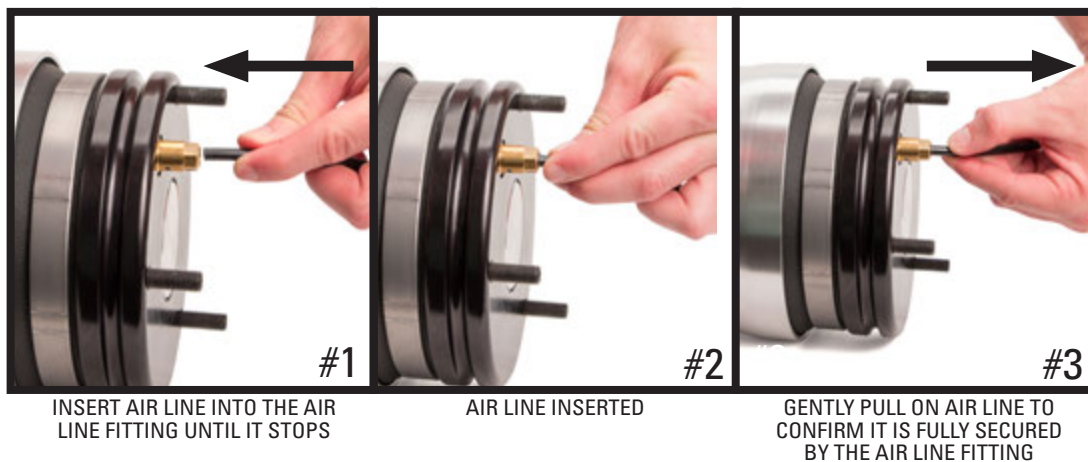

FIGURE 40
13. CONNECT THE AIR LINE. PRESS THE LINE IN UNTIL IT SEATS IN THE FITTING FIRMLY. USE THE FIGURE BELOW AS AN EXAMPLE. (FIGURE 40)